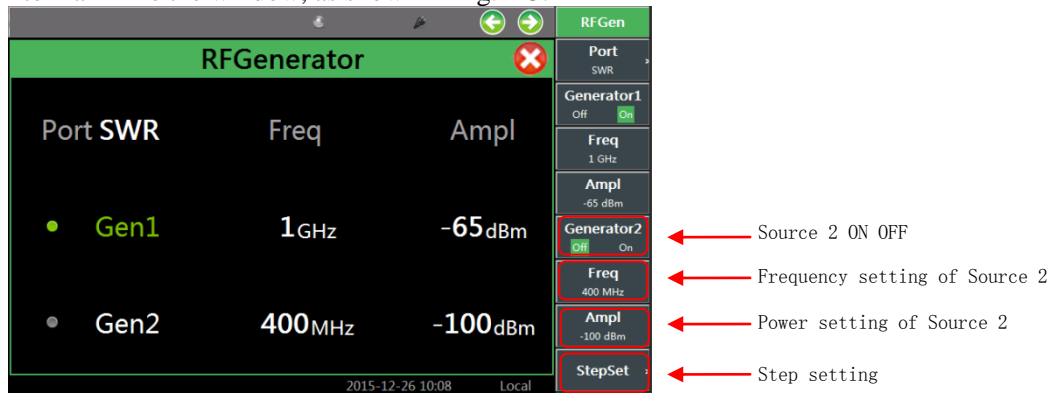

Fig. 4-3 Display Window of RF Source 2
- Open the window: open and select the RF source window by pressing [Receiver] or pressing [Measurement] and setting the instrument menu. Press [Full Screen] in the lower part of the screen to maximize the window, as shown in Fig. 4-3.
- Call the menu: click the touch screen, select the window of Source 2 as the current active window, and the corresponding menu will pop up in the right side of the window, as shown in Fig. 4-3.